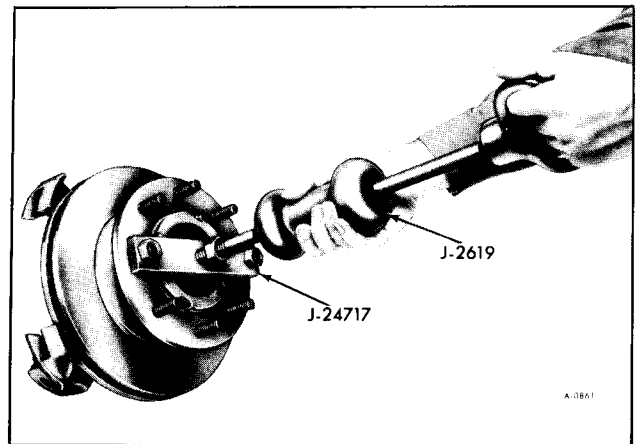

Figure 18—Installing Tool J-24717
9. Position tool No. J-24717 on hub as shown in Figure 18.